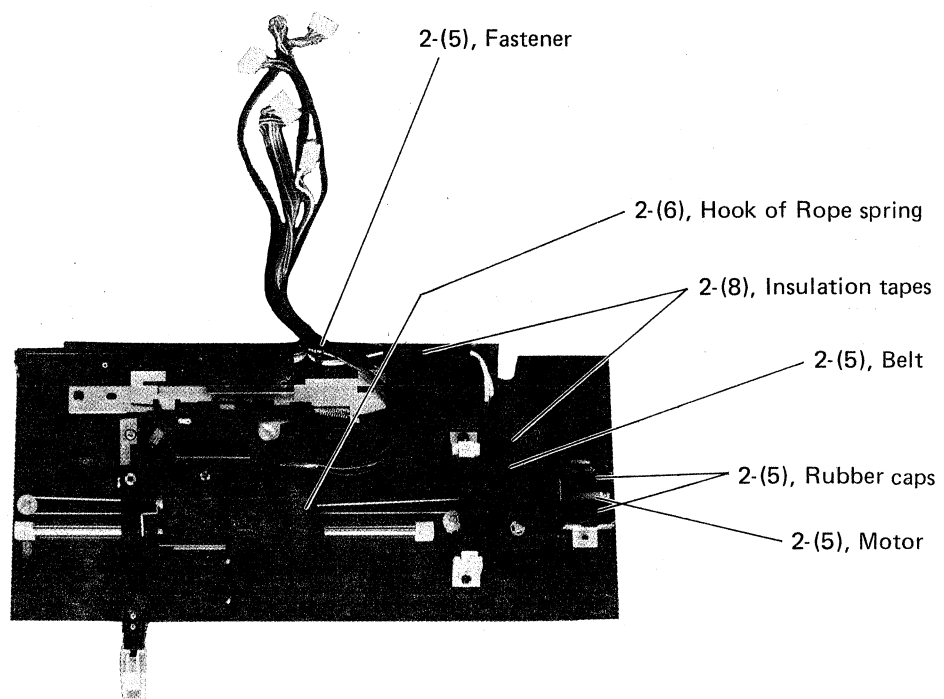

Fig. 4
- (4) Dismount tonearm mechanism ass'y. (See fig. 4)
- (5) Dismount tonearm drive motor. (See fig. 4, 5)
- 1. Take off hook of rope spring for tonearm ass'y. (See fig. 4)